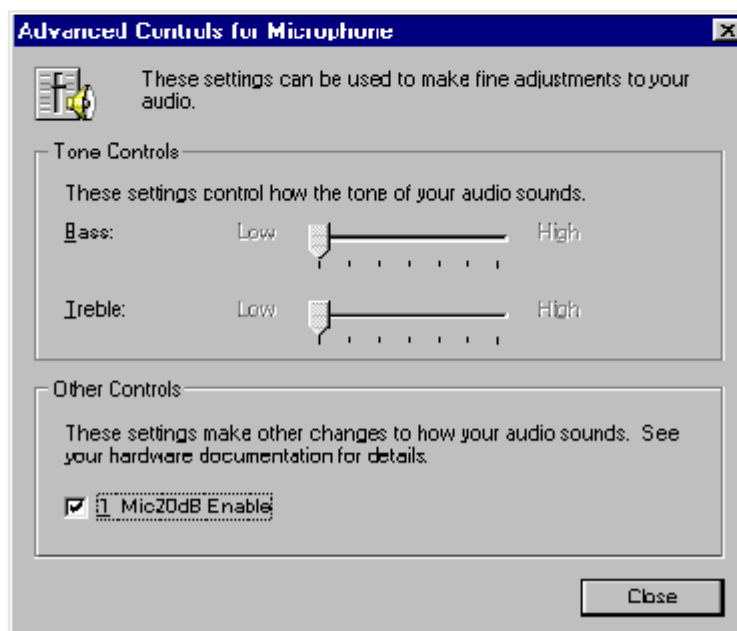

Figure 3-3. The Advance Controls for Microphone Windows.
- 5) The Advanced Control for Microphone window will now appear as shown in Figure 3-3 below. Adjust the Bass and Treble as desired by dragging the slide-bars horizontally. If you wish to enable the Mic20dB setting for your microphone, then click on **Mic20dB Enable**.